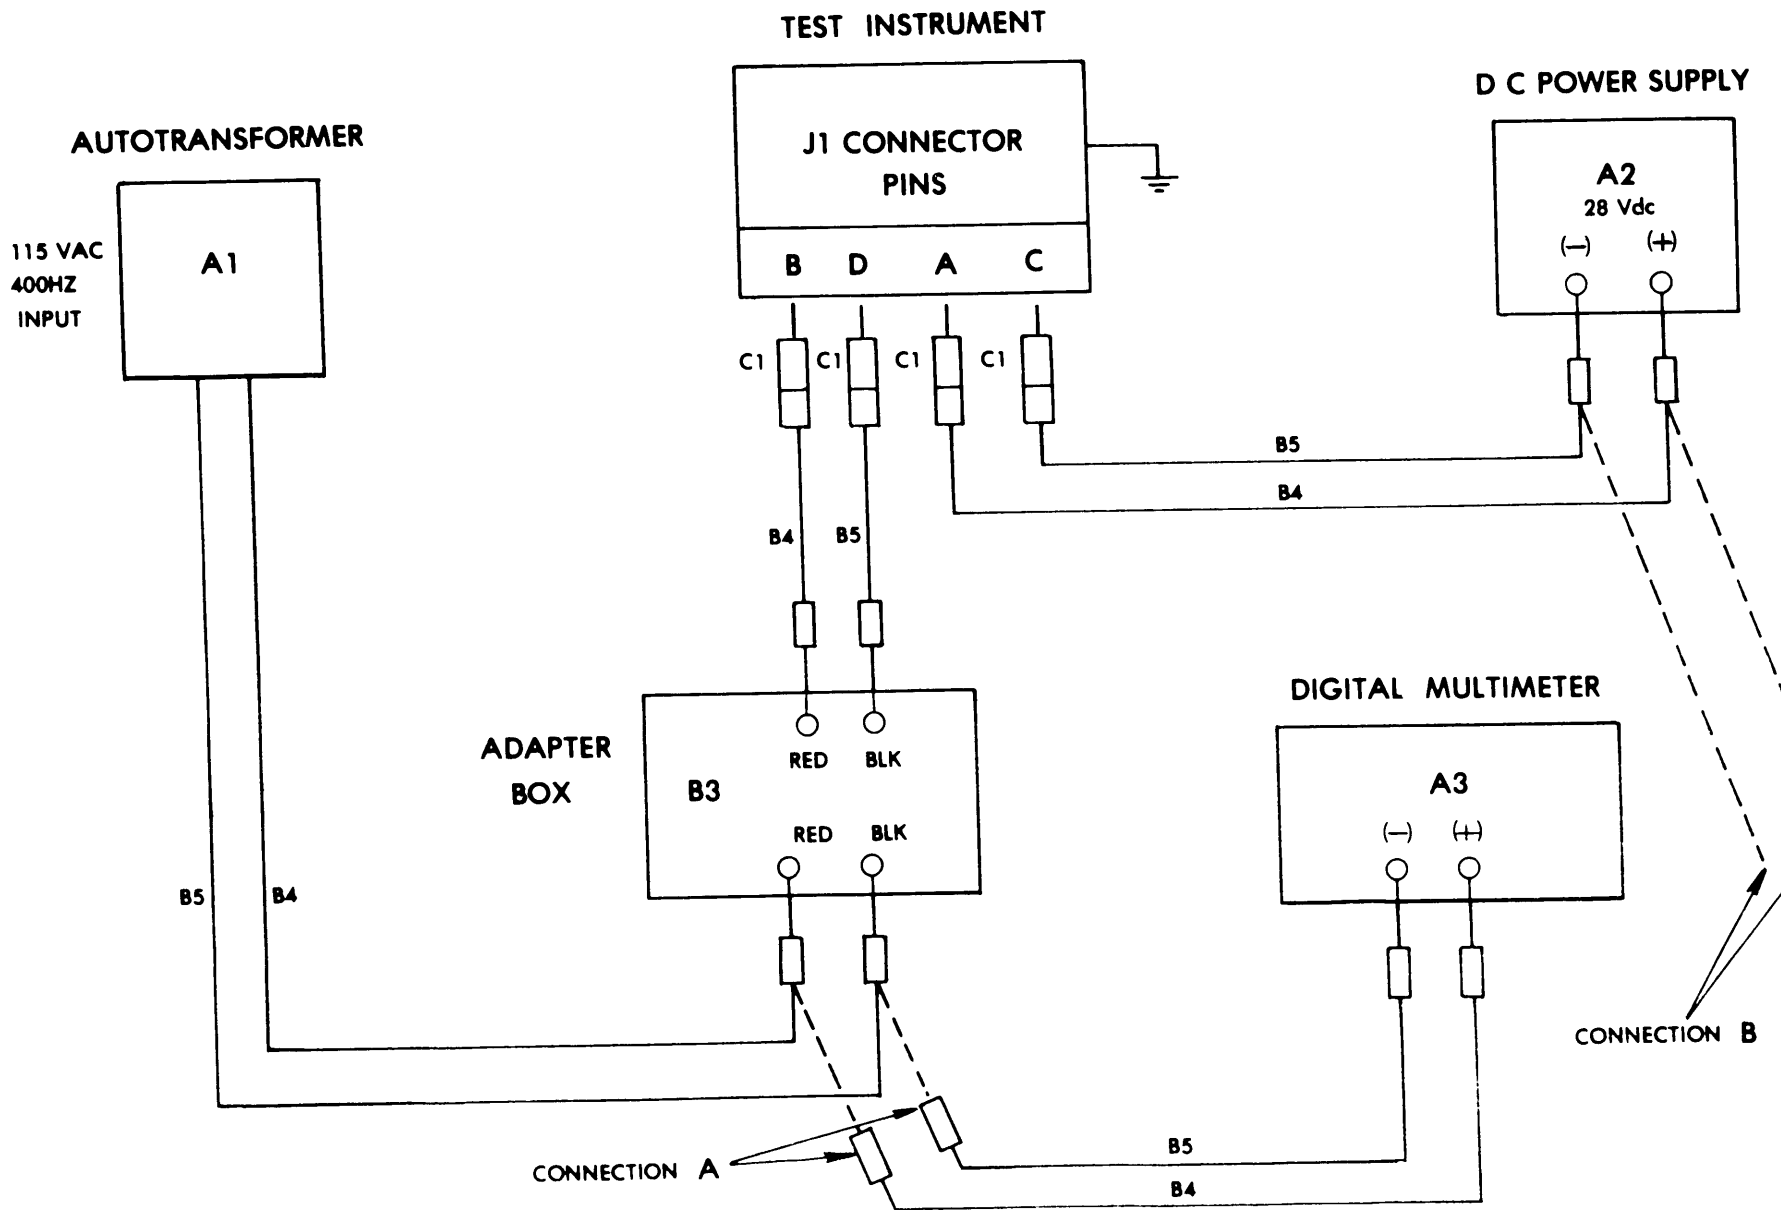

Figure 1. Equipment Power Setup.
- c. Connect the test equipment as shown in figure 1.